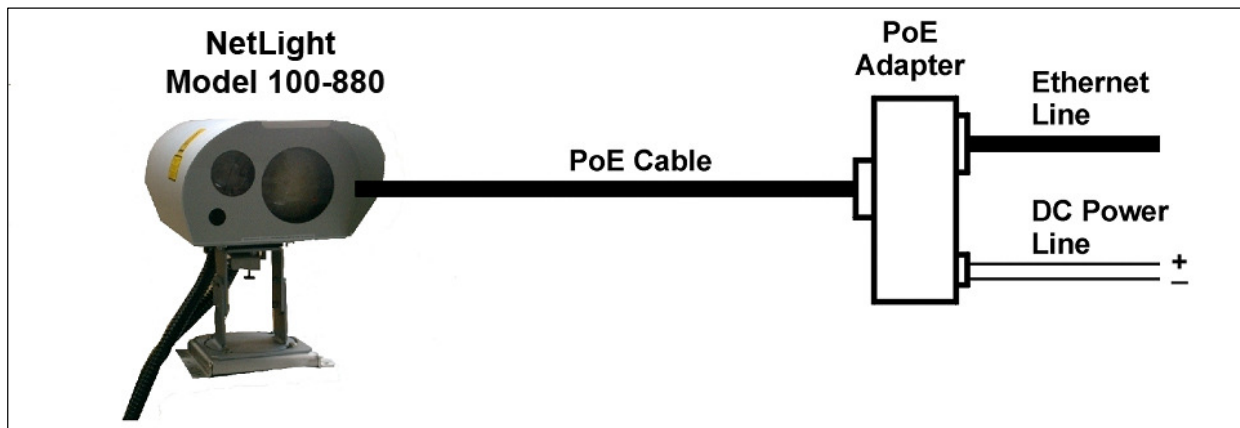

Figure I.1: Power-over-Ethernet Interconnection with external PoE adapter
2. The NetLight with PoE option connected to *non-PoE-enabled* equipment through an external PoE adapter. The PoE adapter couples an Ethernet Line and DC Power (usually - 48 VDC – see low voltage power requirement in Appendix A: specifications) onto an 8-wire straight (non-cross) Category 5 or 5e cable, as shown in Figure I.1. The other end of the PoE cable is connected directly to the NetLight with the PoE option. Adapters to be used with the NetLight are required to meet the IEEE 802.3af standard. Examples of brands of such adapters are: *HyperLink Technologies BT-CAT5-P1*, *PowerDsine 6001*. These two types of adapters are commercially available. This connection is illustrated on Figure I.1.